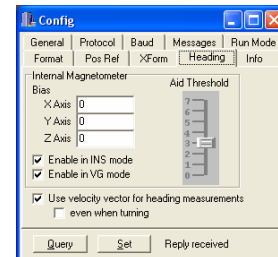

Figure 2. Heading tab
3. **Select the "Heading" tab and Press the "Query" button (Figure 2). This will display the current magnetometer biases.**
4. **Reset all bias values to zero (0) and press the "Set" button (Figure 2).**
5. **Verify that the "Enable in INS mode," "Enable in VG mode," and "Use velocity vector for heading measurements" are all checked and Press the "Set" button (Figure 2).**